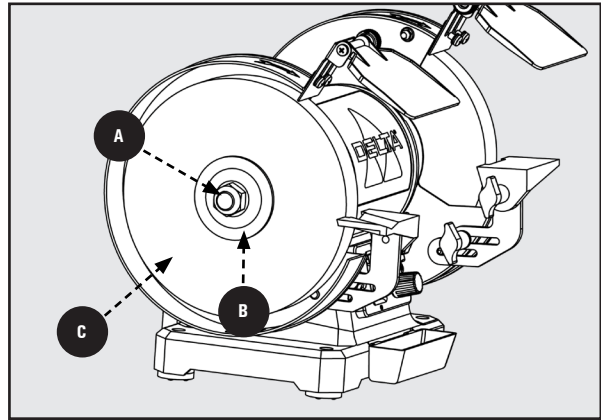

Figure 8
4. Remove the arbor nut **A**, wheel flange **B**, and old grinding wheel **C**. See Figure 8.